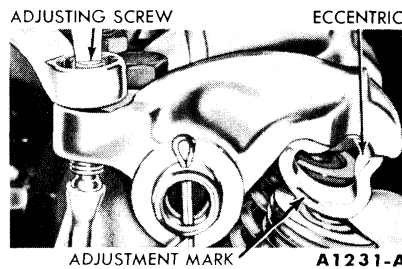

FIG. 4—Depressing Valve Rocker Arm Eccentric
3. Adjust the intake and exhaust rocker arm for the No. 1 cylinder. Push the eccentric toward the rocker arm until the plunger is completely pushed into its bore in the rocker arm (Fig. 4). Turn the adjusting screw in until the eccentric and plunger are held in the depressed position (Fig. 4).